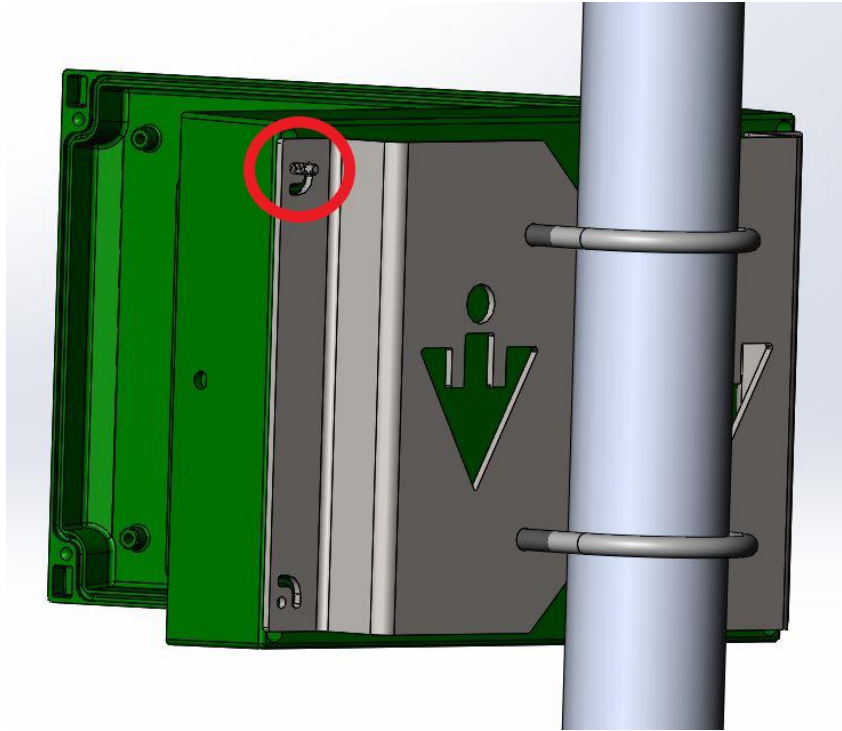

Figure 2-20. Feeding Screw Through Enclosure and Mounting Bracket
10. Using the socket head cap screws provided, feed one screw through the enclosure and through the mounting bracket as shown in Figure 2-20.